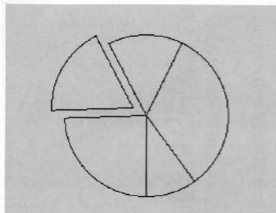

Figure 2: Pie Chart
The pie chart in lines 910-1020 is simpler (see Figure 2). Lines 930-970 are an error-trapped input routine for the data. If there is an "S" at the end of a number, the flag FL(N) is set to 14, which is the distance that segment will be displaced. Line 990 sets up the loop to do the segments and then moves the center point outward the distance FL(N). The segment is drawn by line 1000. Line 1010 updates the starting angle for the next segment and that's it.